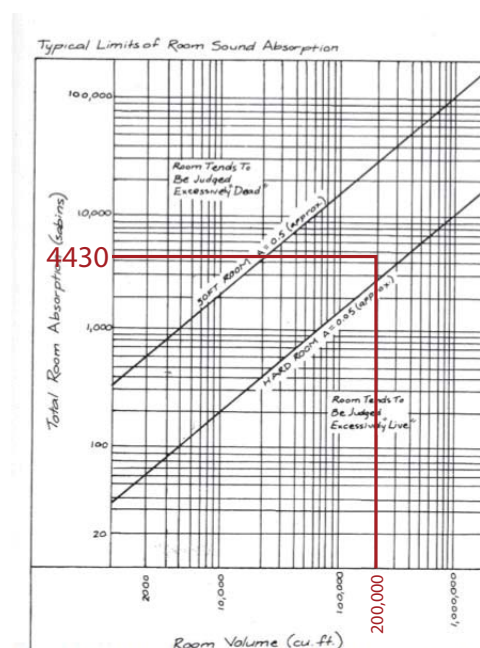

Figure E3.2.1 Room Liveness Graph. Adapted, by permission, from Flynn and Segil, *Architectural Interior Systems*, 66.
- Evaluate the Liveness of your space (Figure E3.2.1)